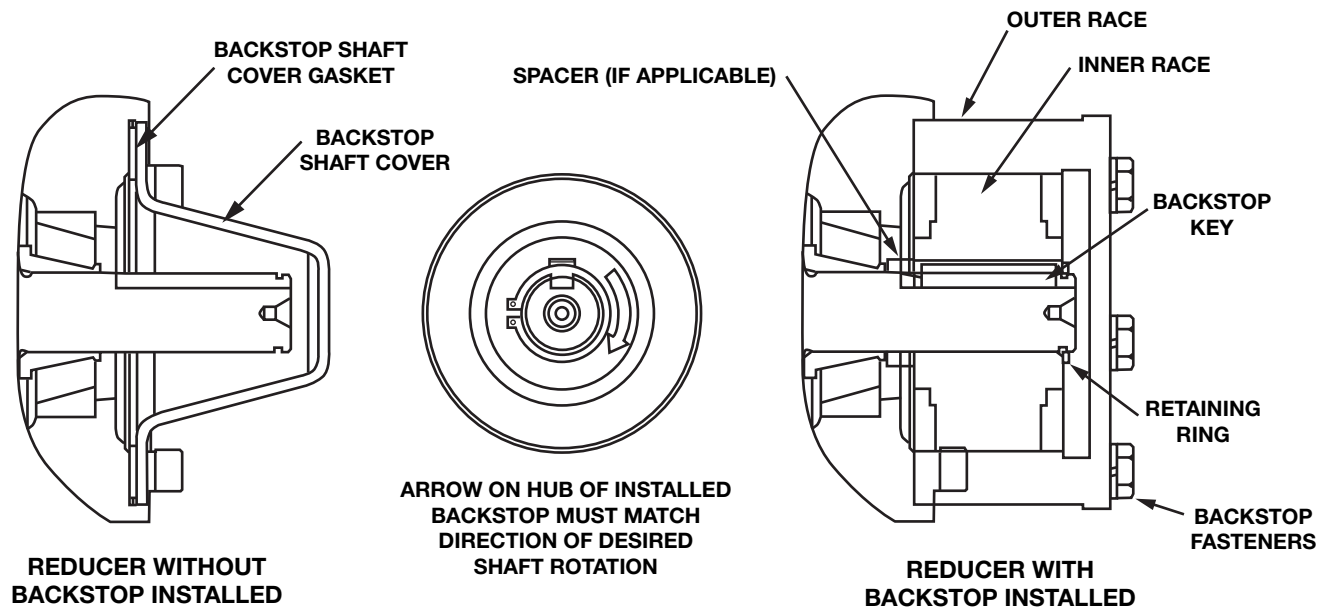

Figure 1 - Backstop Assembly
1. Remove backstop shaft cover and gasket (Figure 1). These parts will not be reused. This cover is directly opposite the extended end of the input shaft.